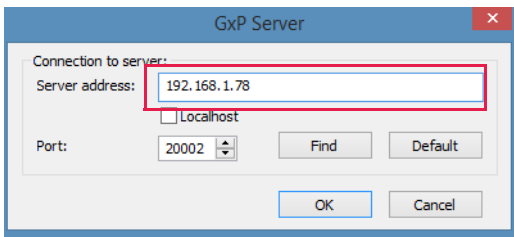

Figure 4-5: Manual Entry of Remote Host Address
- **Choosing a remote host on another subnet**—If the Octet® GxP Server module is hosted on a different subnet, deselect the **Localhost** check box. Enter the IP address or fully-qualified domain name (FQDN) of the computer hosting the Octet® GxP Server module (Figure 4-5).